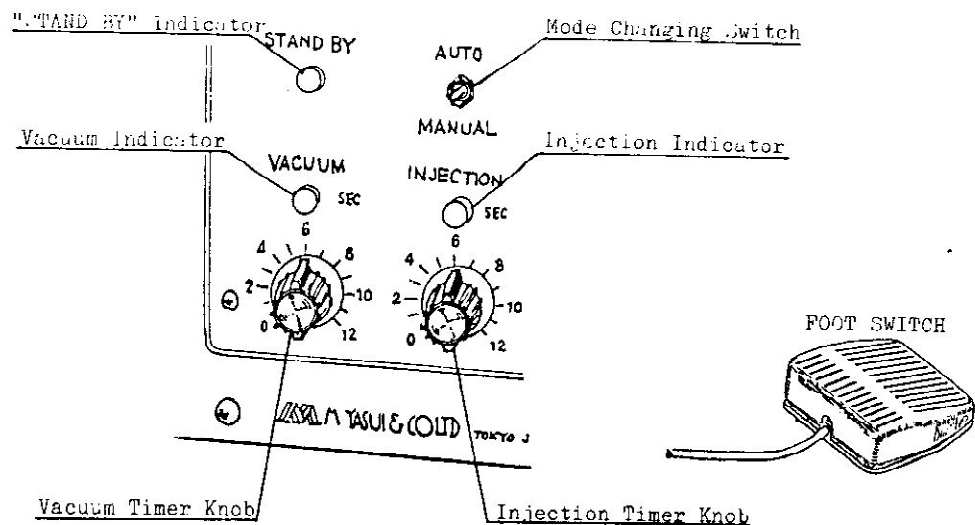

FIG. 9
- (1). Turn the Mode Changing Switch (FIG.9) to the "AUTO" position.
- (2). Turn the Vacuum Timer Knob (FIG.9) to a time desired.
- (3). Turn the Injection Timer Knob (FIG.9) to a time determined.
- (4). Depress the Foot Switch (FIG.9) lightly and remove foot from it at once.
- (5). Vacuum Indicator will light.
- (6). When set vacuum time is up, the Vacuum Indicator will go off.
- (7). Next, the Injection Indicator will light.
- (8). When set injection time is up, the Injection Indicator will go off.
- (9). At this point, the "STAND BY" Indicator will light.
- (10). Test the operation-cycle 3~4 times for correct sequential functions.